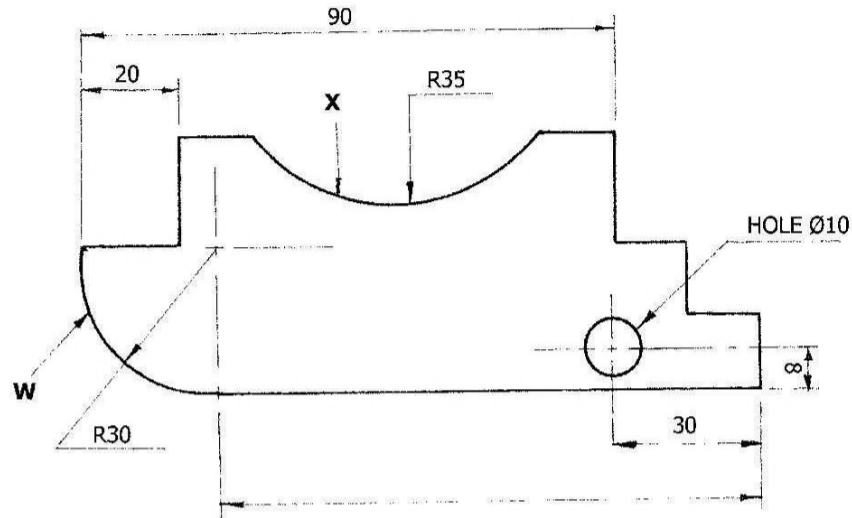

Figure 1
Figure 1 shows a Wood Circular Saw cover which is made of mild steel 3mm thick.
- (a) (i) List three (3) marking out tools you would use to mark out the details on **Figure 1**. [3]
- (c) (i) List the steps you would take to drill a hole of diameter to 10mm in **Figure 1**. [3]
- (i)** State the functions of each of the three (3) basic materials that consist the charge fed into the blast furnace. [3]